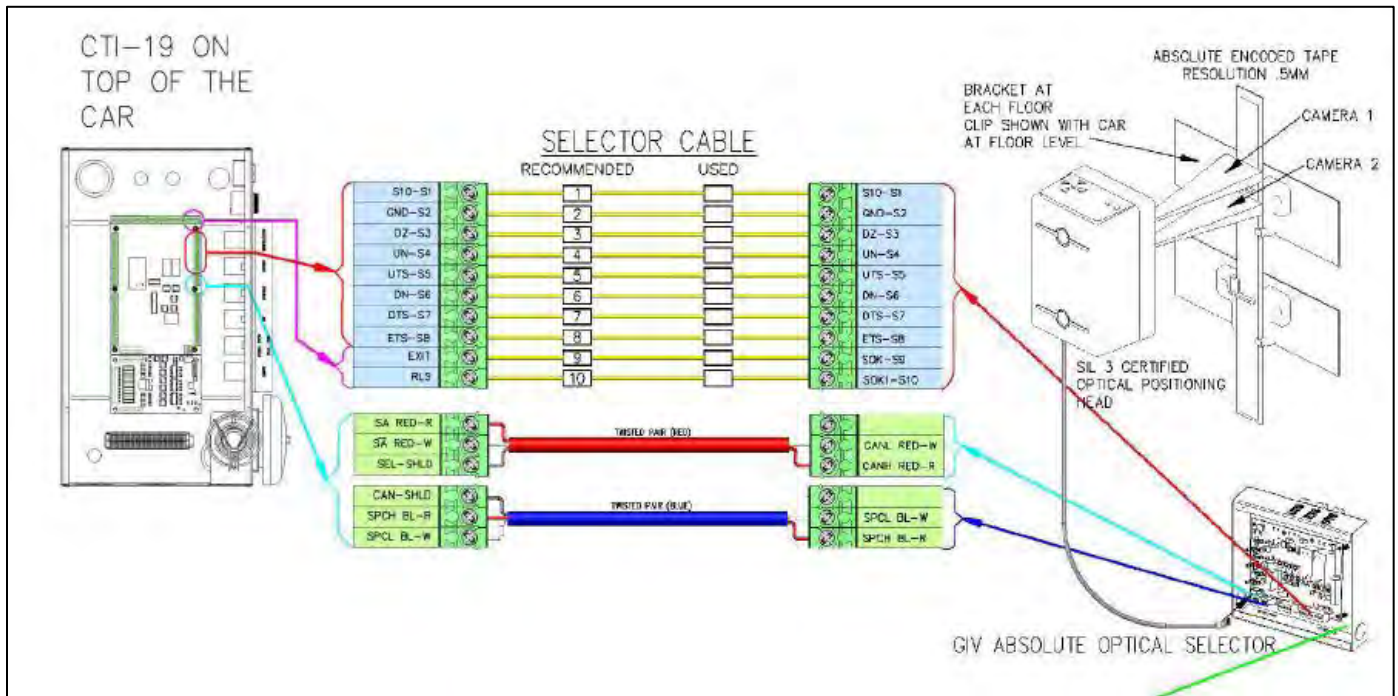

Figure 2-15: Typical Wiring Connections for the APS Selector
- Figure 2-15 shows typical wiring connections for the APS selector.